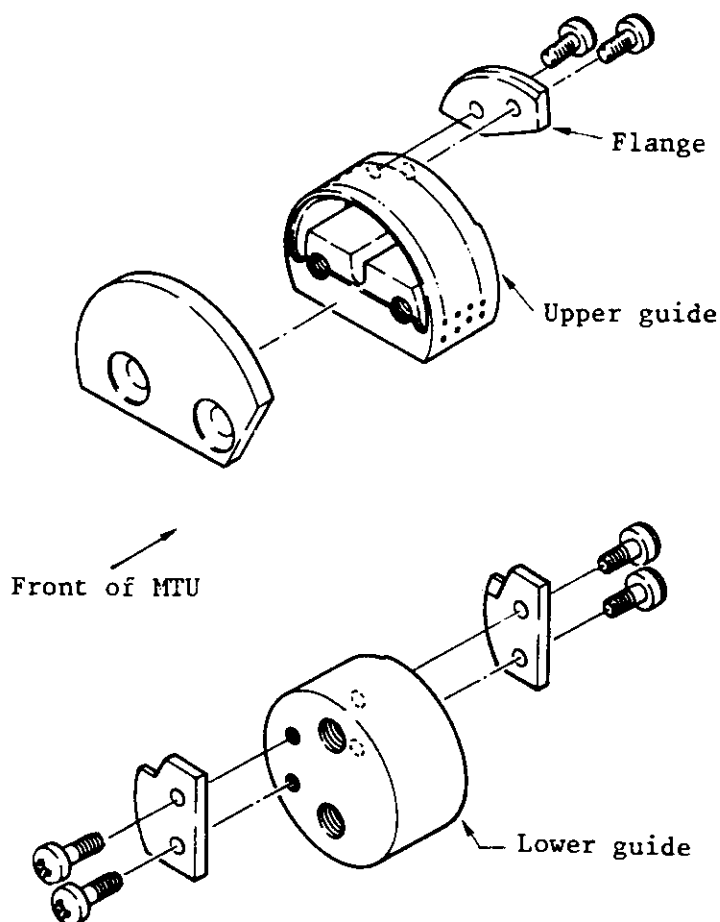

Figure L.5 Upper and lower tape guides
- (1) Remove two screws at the front of the upper guide shown in Figure L.5 and remove the guide.
- (2) Remove two screws and remove the flange from the guide.